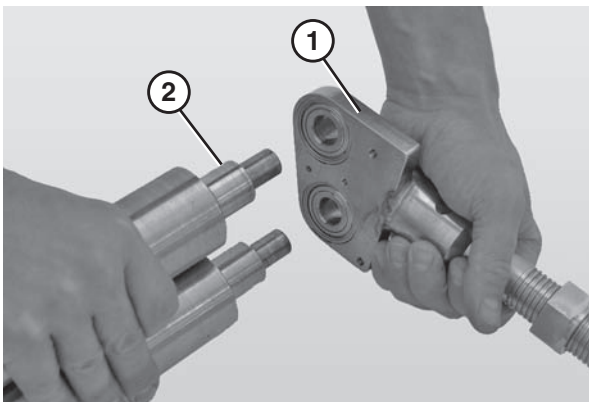

Figure 90
- Slide the nose bar shafts (Figure 90, item 1) off the nose bar spindles (Figure 90, item 2).